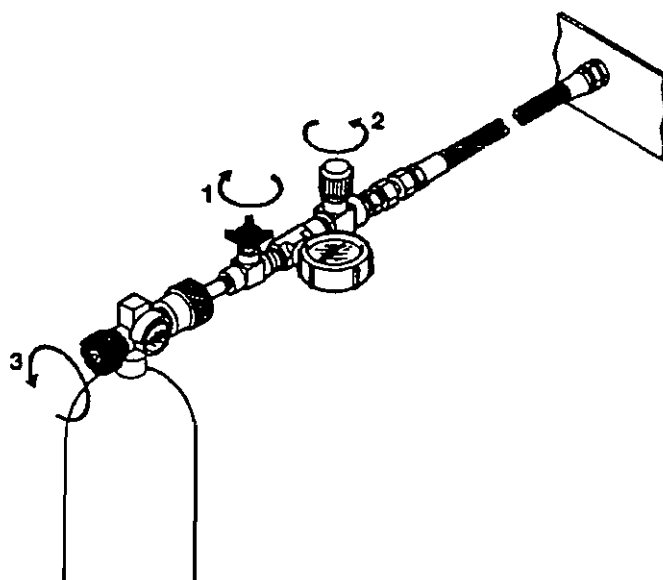

Fig. 17.2 Filling the air bottle
Close the bleed valve (1) on the fill hose (fig. 17.2) or on the adapter. Open the filling valve (2) and then the bottle valve (3). Start the compressor unit and drain the condensation from the compressor regularly during filling.